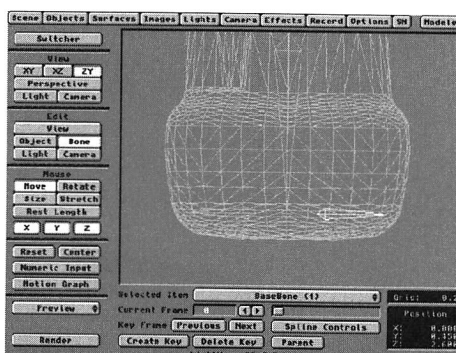

Figure 1: The first base Bone in place as an anchor.
- Click **Add Bone**. Rename that Bone "basebone." Return to Layout. You'll see what looks like a squared necktie. That's your bone (Figure 1). This Bone has no effect on your object yet. Select **Continue** and return to the Layout window.